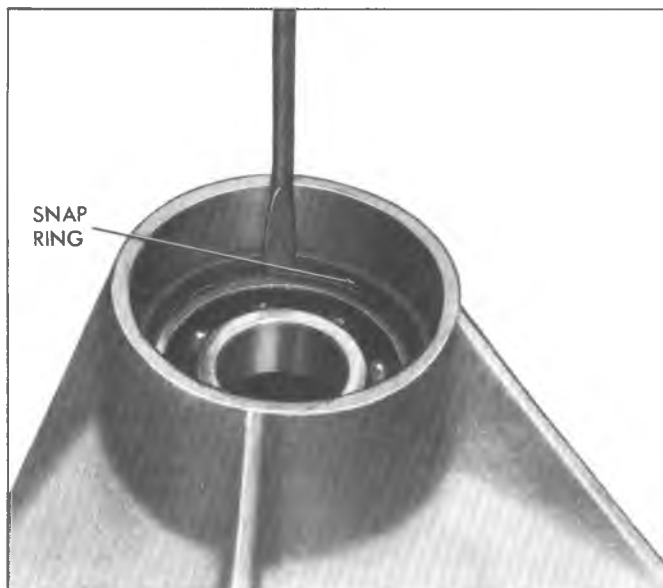

Fig. 17F—Removing Rear Output Bearing Retaining Ring
5. Using a screwdriver, pry behind open ends of snap ring and remove snap ring retaining rear bearing in housing (fig. 17F).